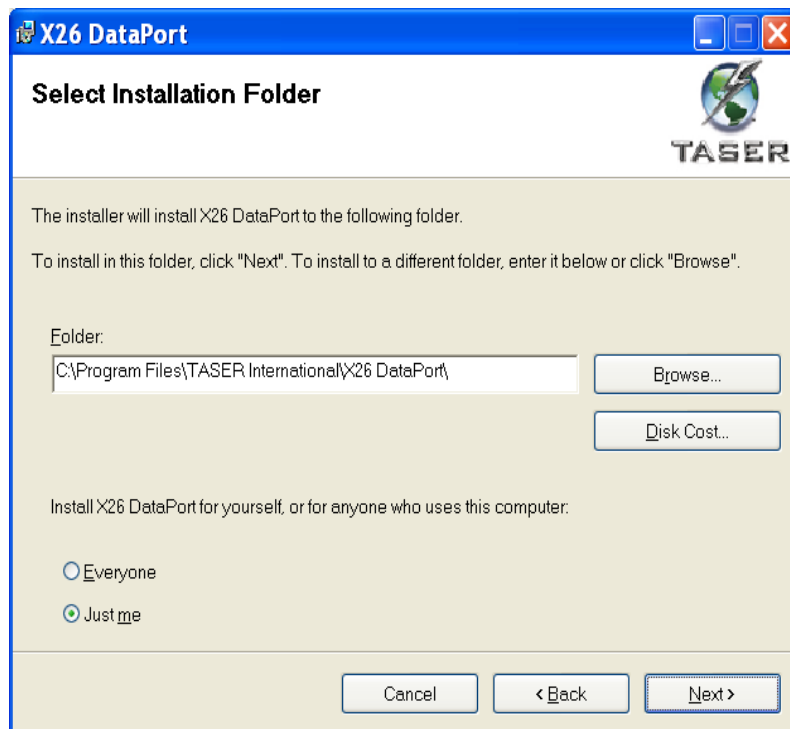

Figure 3
7. Based on your organization's policy, indicate the access for this software (Figure 3).